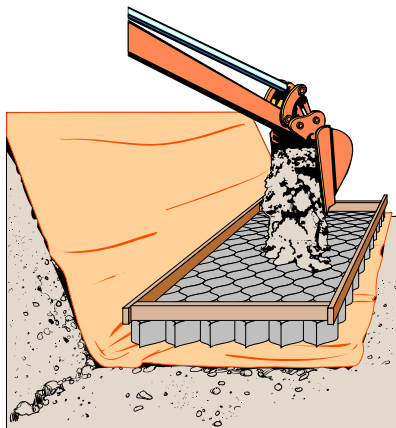
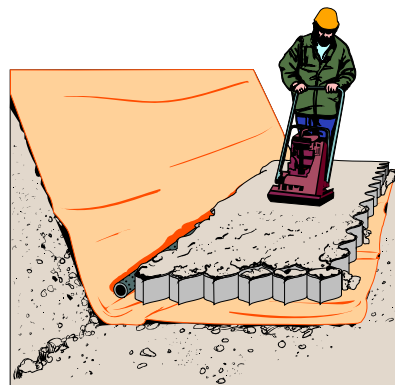
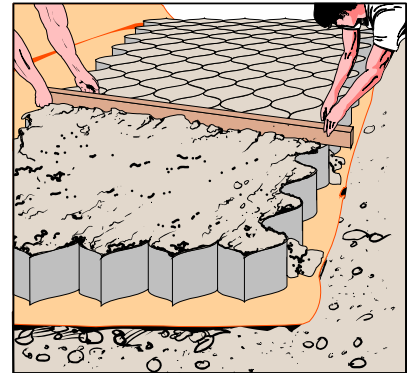

Figure 5 Placing Infill
Figure 6 Compacting Infill
Figure 7 Leveling Infill
- Typical infilling, compaction, and leveling procedures are shown below and apply to all GEOWEB layers. See Figure 5, Figure 6, and Figure 7.